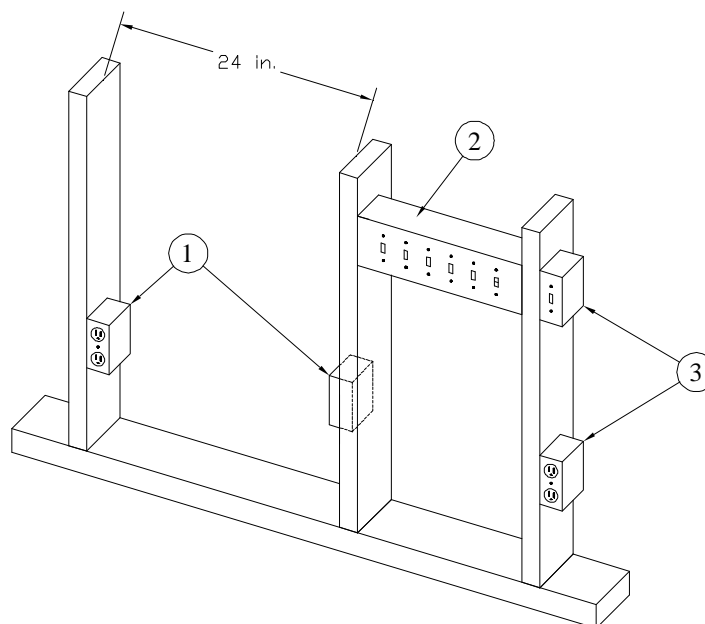

Figure 1 – Where putty pads may be required
- The total area of a single penetration item may not exceed 16 sq. in. (See Item 2 in Figure 1)
- A minimum 24 in. horizontal separation is required between penetrating items on opposite sides of the wall. (See Items 1 and 3 in Figure 1)